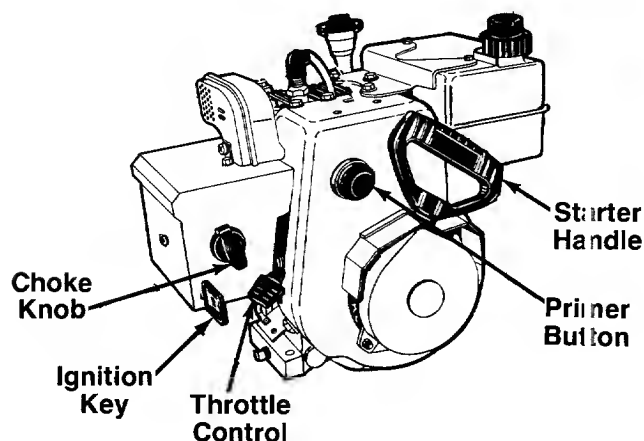

FIGURE 22.
2. Move throttle control up to FAST position. Insert ignition key into slot. See figure 22. Be certain it snaps into place. **Do not turn key.**
4. Push primer button two or three times. See figure 22. If engine is warm, push primer button once only.
5. Grasp starter handle (see figure 22) and pull rope out slowly, until it pulls slightly harder. Let rope re-wind slowly.